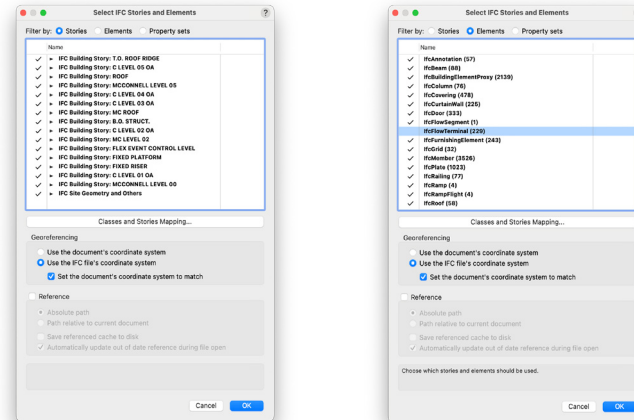

FIGURE 31: Select IFC Stories and Elements dialogs
- All IFC Stories and elements are imported by default. However, a filter can be applied to choose specific Stories or particular elements (Fig. 31).